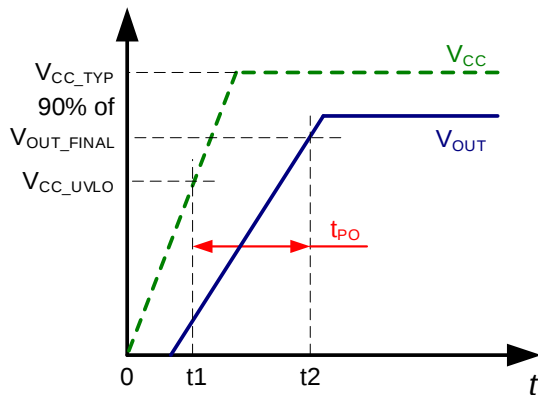
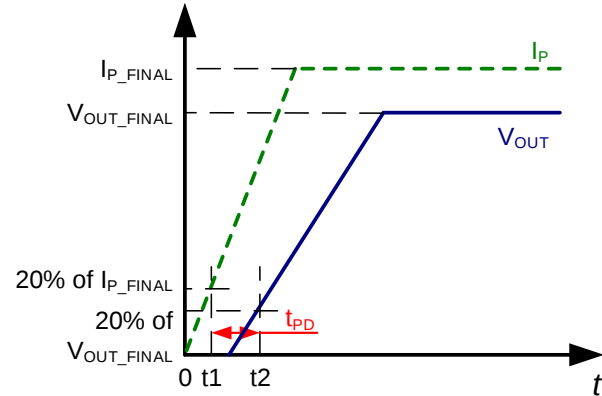
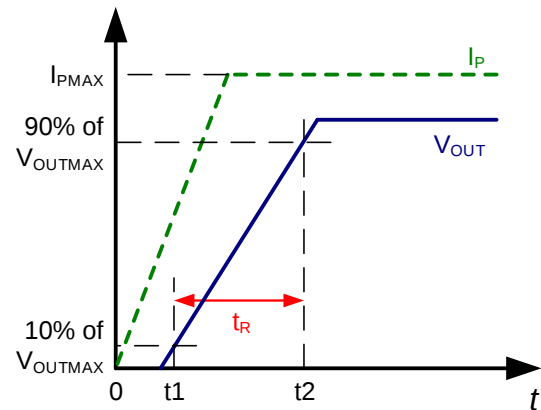

Figure 5: Power On Time ( $t_{PO}$ )
Figure 6: Propagation Delay ( $t_{PD}$ )
Figure 7: Rising Time ( $t_R$ )
2.  $t_2$ :  $V_{OUT}$  settles to 90% of its final value under an applied primary current (see Figure 5).
2.  $t_2$ :  $V_{OUT}$  reaches 20% of its final value, as it corresponds to the applied primary current (see Figure 6).
2.  $t_2$ : The sensor's  $V_{OUT}$  reaches 90% of its full-scale value (see Figure 7).
|            |               | Updated Figure 5, Figure 6, and Figure 7                                                                   | 19            |